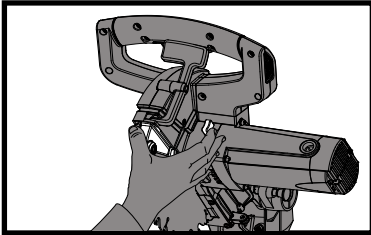
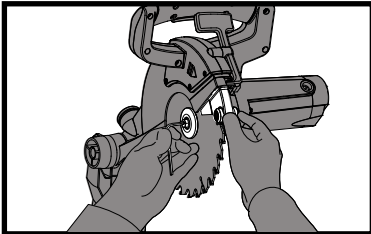

Fig 11
Fig 12
- For clarity the operators hands are shown in figs 11 and 12. We recommend that operator consider wearing protective gloves when removing and installing the blade.
- 5) Hold the guard in position with your thumb and press the arbor lock gently with a finger. (See fig. 11) Rotate the blade using the correct sized hex key inserted into the arbor bolt (See fig. 12) until positive location is felt.